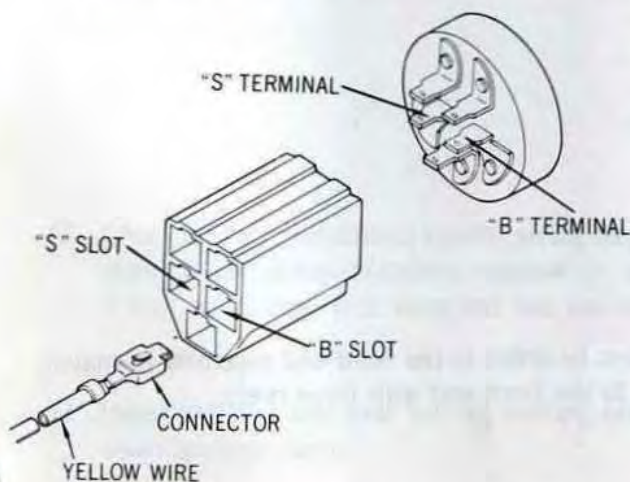
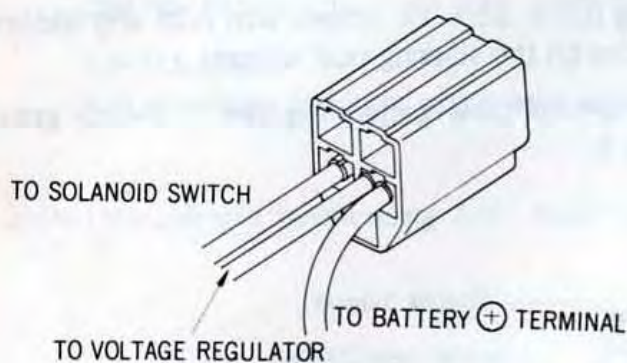

FIG. 6-1
FIG. 7
12. Insert single wire terminal of wiring harness, which comes from solenoid switch, into "S" slot of plastic socket. This will mate with "S" on ignition switch as shown in Fig. 6-1. Insert twin wire terminal which comes from the voltage regulator into "B" slot of plastic socket. This will mate with "B" on ignition switch as shown in Fig. 6-1. See Fig. 7.